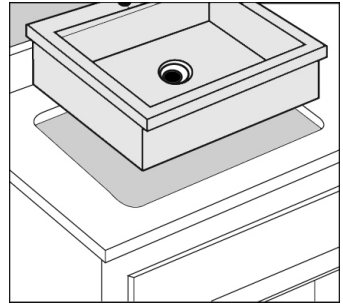

Figure 4
8. Apply a "rope" of plumber's putty or caulk around the perimeter of the underside of the sink. Flip the sink over and carefully place it into the countertop opening, with all of the drains and attachments secured. Press down firmly to seat the sink against the countertop (Figure 4).